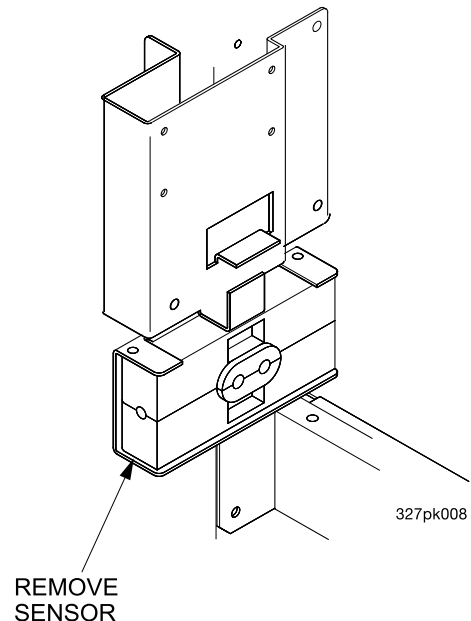

Figure 1
3. Remove the existing sensor mug brackets (see figure 1).